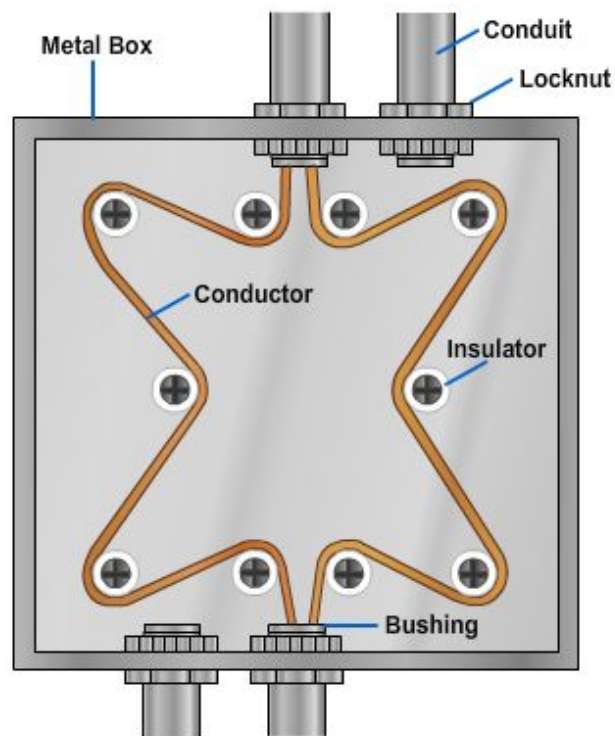

Figure 8-36 – Supporting conductors in a vertical conductor run.
3. Support the cables in junction boxes by deflecting them (*Figure 8-36*) not less than 90 degrees and carrying them horizontally to a distance not less than twice the diameter of the cable. You may carry the cables on two or more insulating supports and additionally secure them by tie wires. When you use this method, support the cables at intervals not greater than 20 percent of those mentioned in the preceding table.